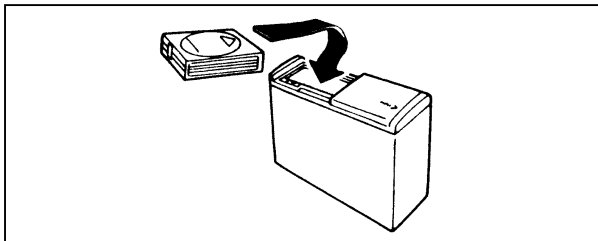

Figure 4
4. Insert loaded disc magazine into changer unit with the arrow on top of the disc magazine pointing toward the changer (Figure 4). Make sure magazine is fully inserted into changer.